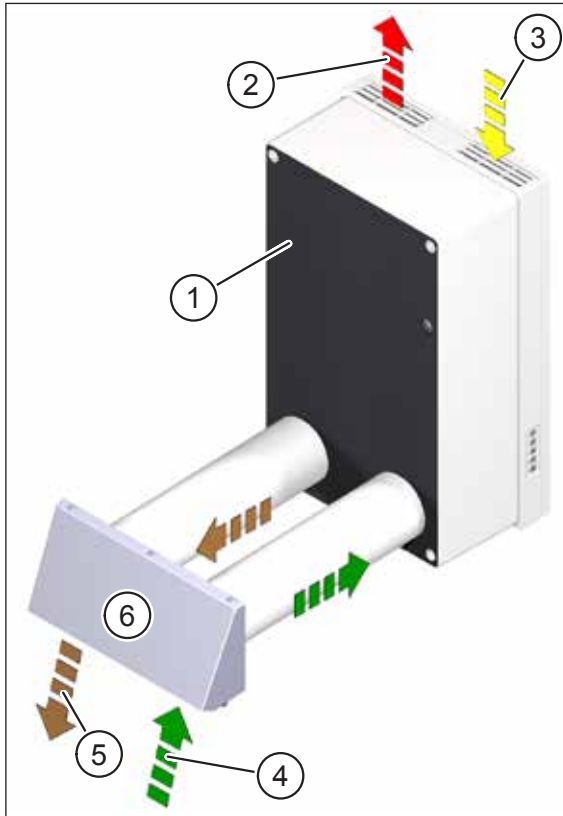
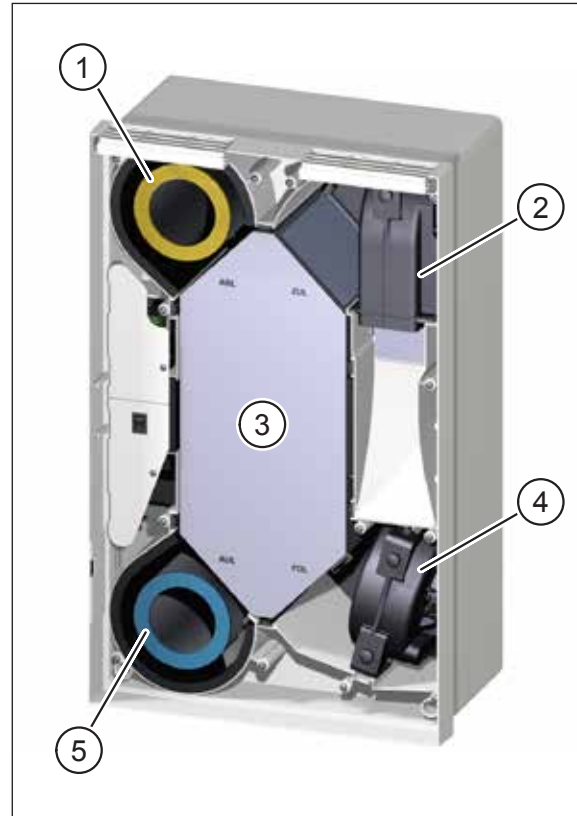

Fig. 9: How the ventilation unit works
Fig. 10: Components for air exchange
Item in Fig. 9	Designation
Item in Fig. 10	Designation
The ventilation unit operates continuously, transports outdoor air and extract air at the same time and guides and filters the outdoor air and extract air separately. The self-regulating fans (which ensure a constant volumetric flow rate) are arranged on the supply air and exhaust air sides. The supply air fan (item 2 in Fig. 10) transports outdoor air (item 4 in Fig. 9) through the outdoor air filter (item 5 in Fig. 10) and cross-counterflow plate heat exchanger (item 3 in Fig. 10) into the interior as supply air (item 2 in Fig. 9). The exhaust air fan (item 4 in Fig. 10) extracts the extract air (item 3 in Fig. 9) from the interior. In the extract air filter (item 1 in Fig. 10), the extract air is cleaned, guided through
the cross-counterflow plate heat exchanger and carried outside as exhaust air (item 5 in Fig. 9). The supply air and exhaust air fans each transport the same volume of air. The pressure in the interior remains practically constant.